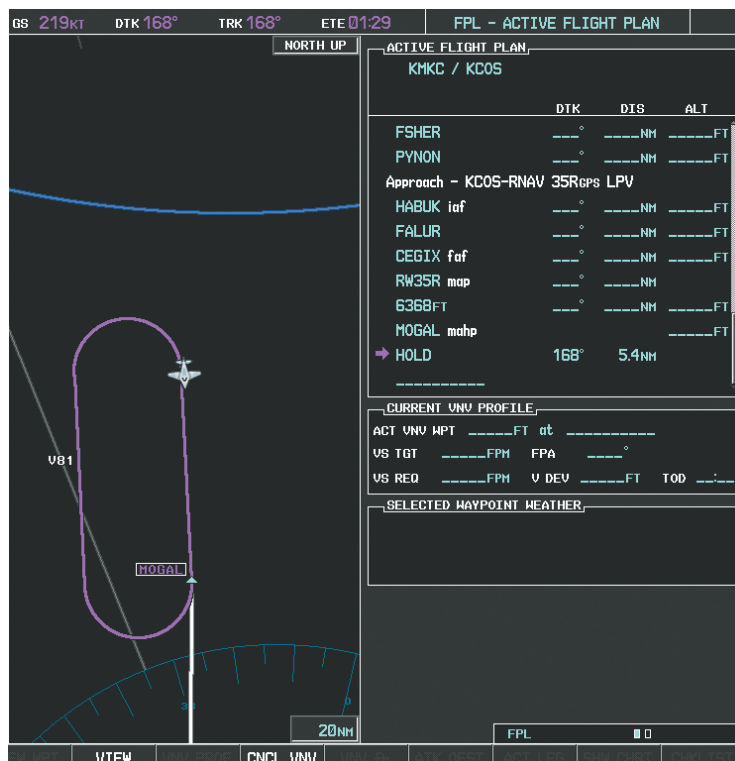

Figure 5-146 Hold Established
- 27) The aircraft maintains 10,000 feet while following the magenta line through the hold as in Figure 5-146.